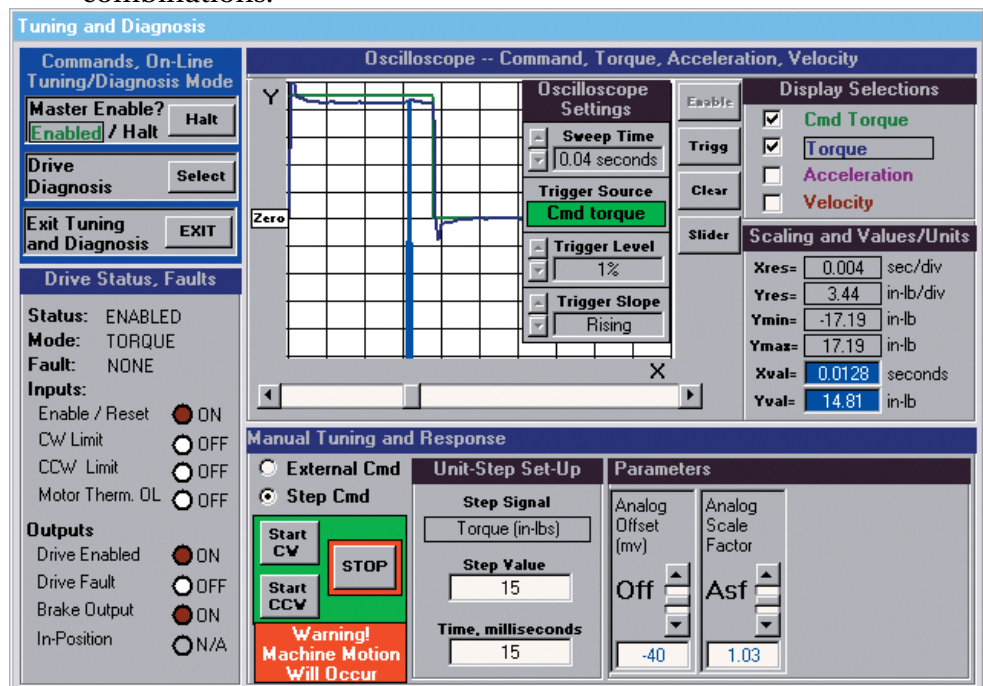

Figure 2.3: Example of Torque Step Response
- 7.) If motor rotation is consistent (clockwise meaning clockwise movement of the motor shaft as viewed when facing the shaft end of the motor) then the oscilloscope function can be used to view the actual torque response of the motor. The scope trigger adjustments are located at the upper right corner of the scope display. To view a clockwise torque step of 15 milliseconds, set up the scope for a total sweep time of 40 milliseconds, and a rising edge trigger of 1%. Figure 2.3 on the following page shows how the corresponding scope data will look.